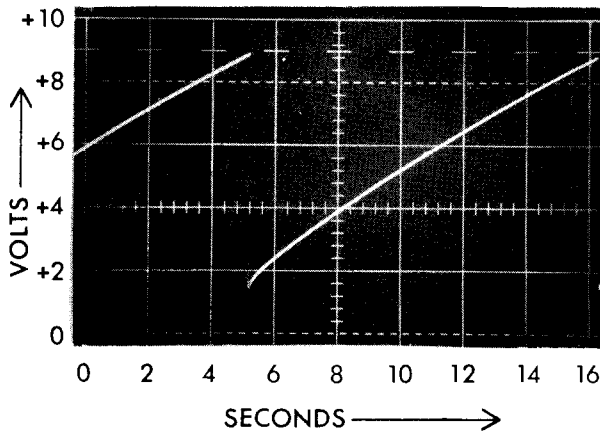

FIGURE 1
- a. Should observe a linear sawtooth waveform with a period of approximately 9 sec. and magnitude of approximately 10 volts. See Figure 1.